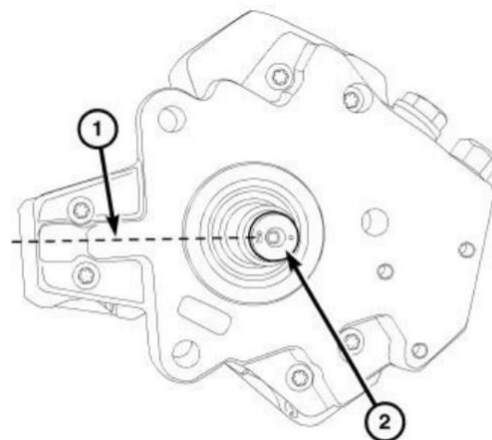

Figure 22 – HPFP Shaft Phasing
- b) Rotate the injection pump shaft until the number 5 (located in the center of number 750 or 754) is positioned at 9 o'clock (1) (Figure 22).
13. Position the injection pump to mounting flange on gearhousing while aligning injection pump shaft through back of injection pump gear. Be sure the number 5 is still at the 9o'clock position (1) (Figure 22).